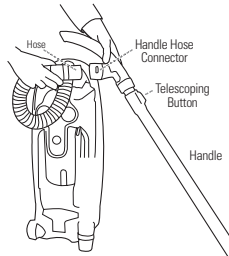

Fig. 14
4. Insert hose into handle hose connector and twist clockwise to lock in position. (Fig. 14)